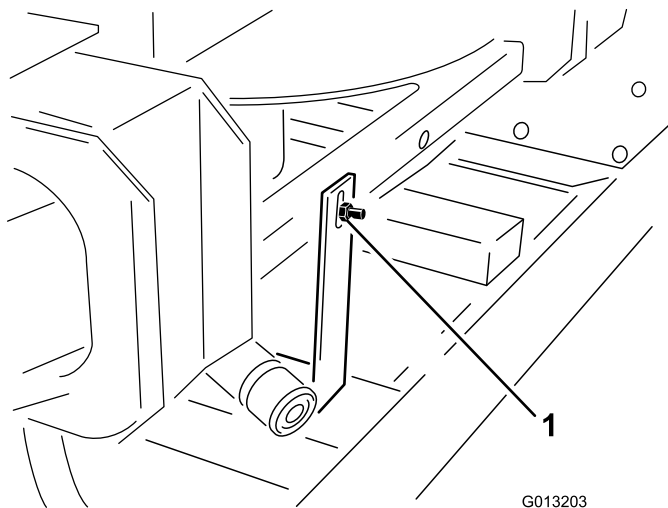

Figure 3
2. At the rear of the twin spinner, remove the 1/4 x 3/4 inch bolt and nut attaching the ProPass lifting device shipping bracket to the twin spinner (Figure 3).